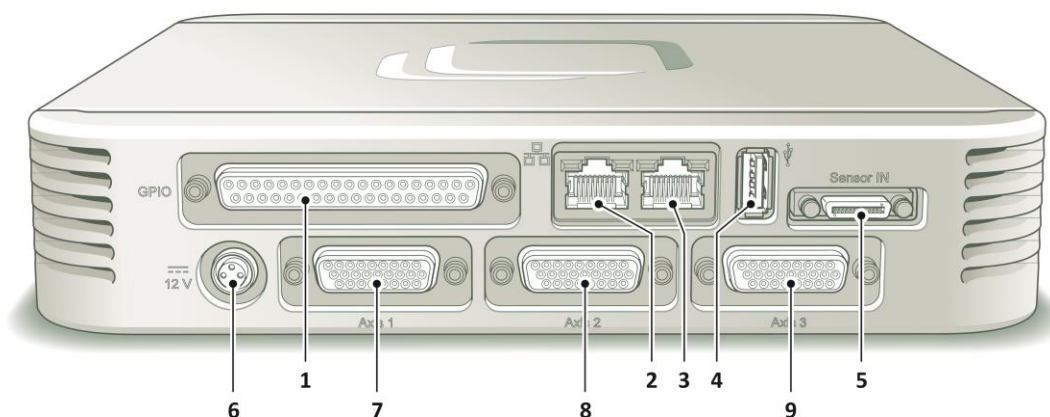

Figure 2 Connector panel
1. Connect the device to the supply mains via the power cable and the device's voltage supply socket (Figure 2/6).
6. Plug in the connector of the Ethernet cable into the device's Ethernet socket (Figure 2/2).
2. Plug in the D-Sub connector of the positioner control cable into one of the corresponding sockets at the device (Figure 2/7, 8, 9).